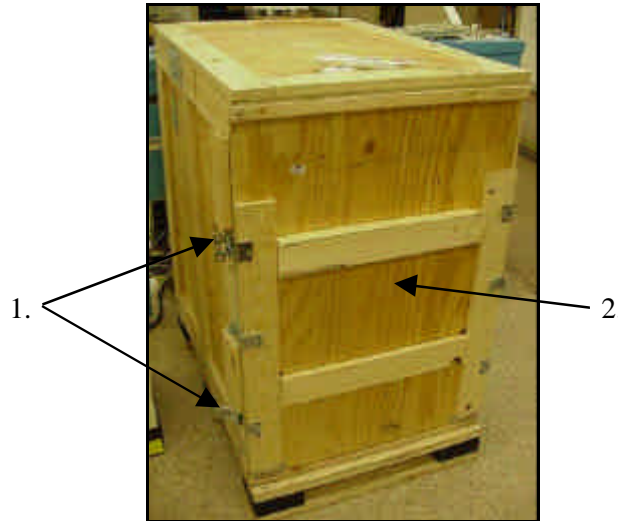

Figure 1: Unopened Crate
1. Unlatch the shipping crate (**Figure 1**). Conversion Stations are shipped unlocked with the keys attached inside the front doors.